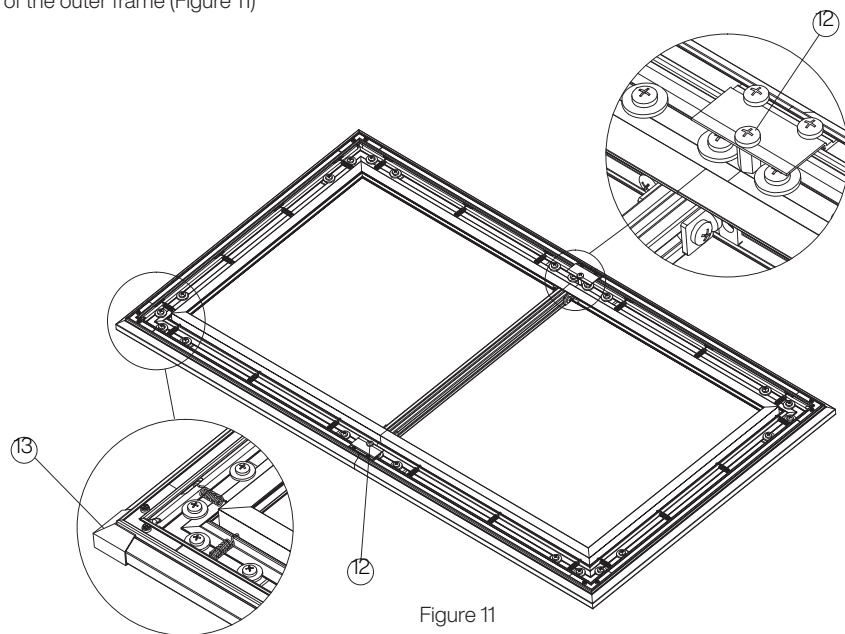

Figure 11
5.3 Use screws to lock the joints of the outer frame on the hexagonal studs, and clip the corner protectors into the slots of the outer frame (Figure 11)